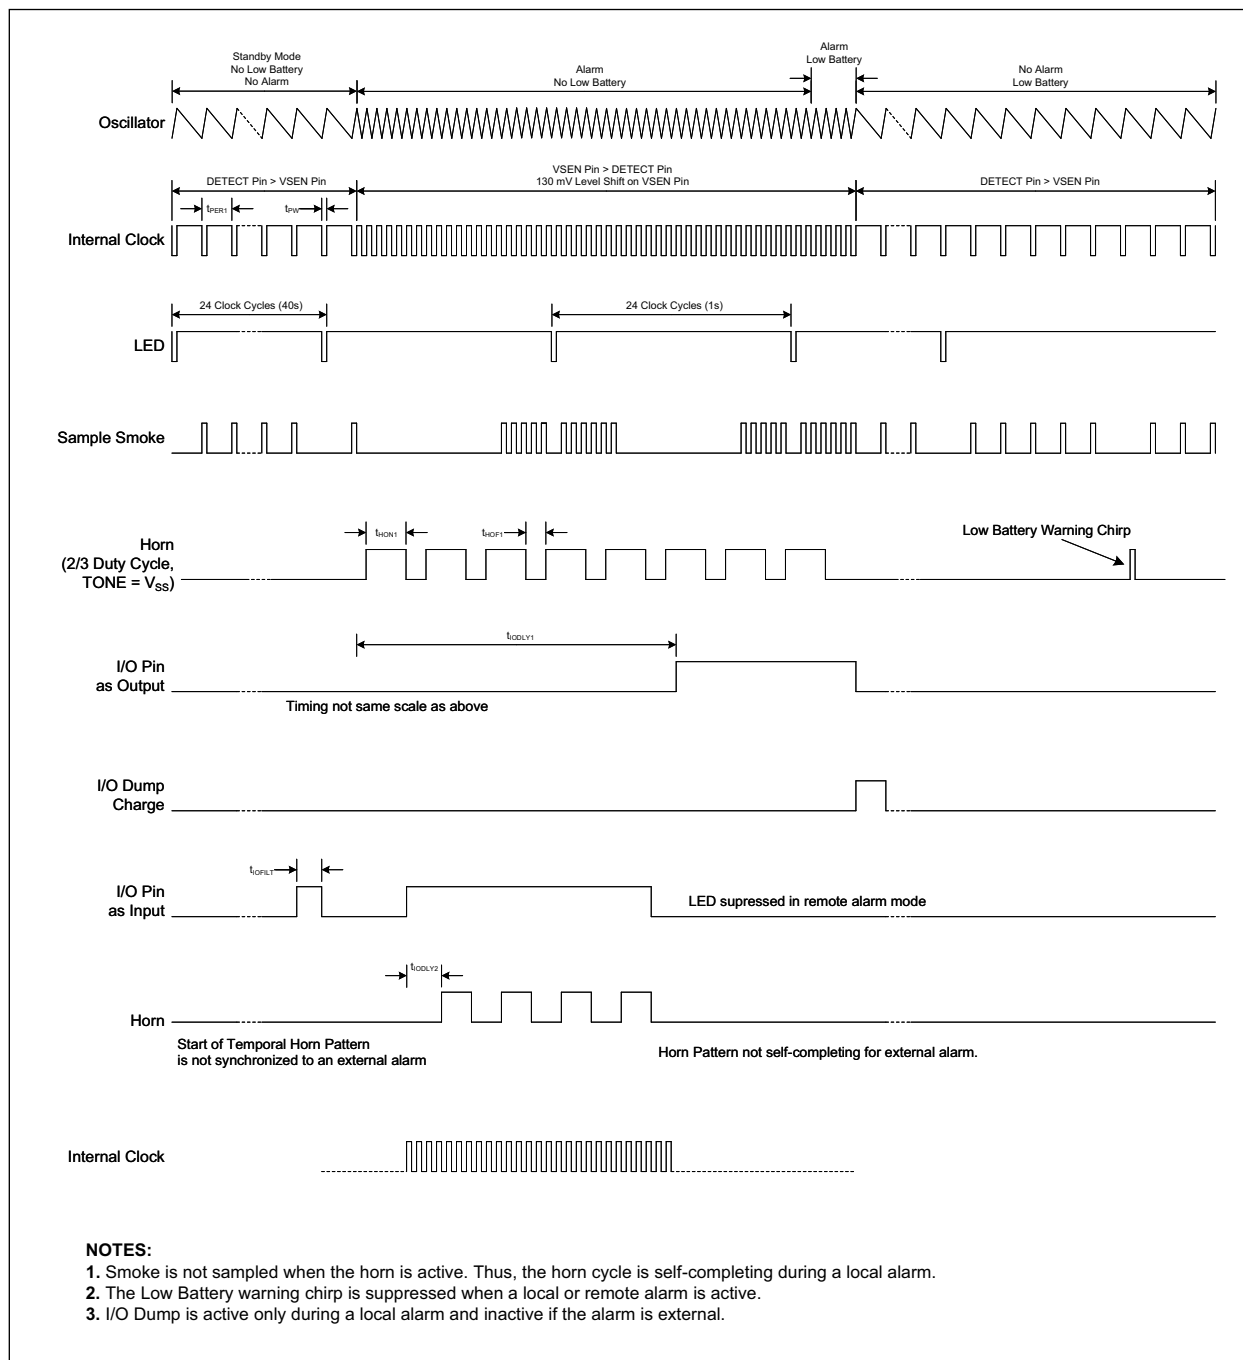

FIGURE 3-1: RE46C127 Timing Diagram – Non-Timer Mode.
Note 1: See timing diagram for Horn Pattern in Figure 3-1.
By holding the OSCAP pin low at power up, the internal power strobe becomes active. While functional testing can be accelerated by driving the OSCAP pin with a 4 kHz square wave, maintain the 10.5 ms strobe period to ensure the proper operation of the analog circuitry. Refer to timing diagrams in Figure 3-1 and Figure 3-2.
- Updated Figure 3-1 and Figure 3-2.